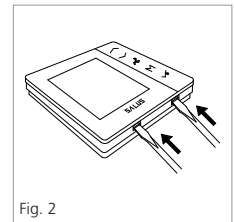

Fig. 2
2. Remove the mounting plate from the controller by inserting a small screwdriver into slots at base of controller. See Fig 2.